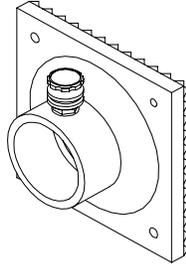

Figure 1-8. Rigid Base
e. **Rigid Base.** The rigid base (Figure 1-8) is a 6" (15.2 cm) square with a non-skid grooved surface secured to a 3" (7.6 cm) standard base. The rigid base provides greater stability than the 3" (7.6 cm) standard base and functions well against solid surfaces.